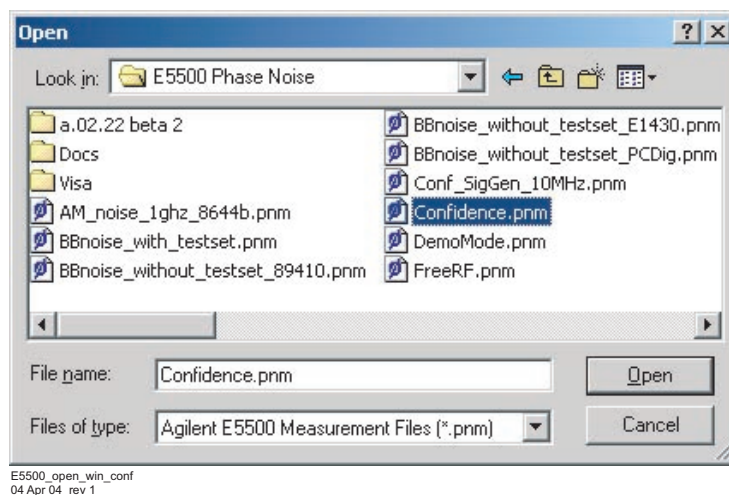

Figure 36 Select the parameters definition file
- 2 In the **File Name** box, choose “**Conf_SigGen_10MHz.pnm.**” See Figure 36.